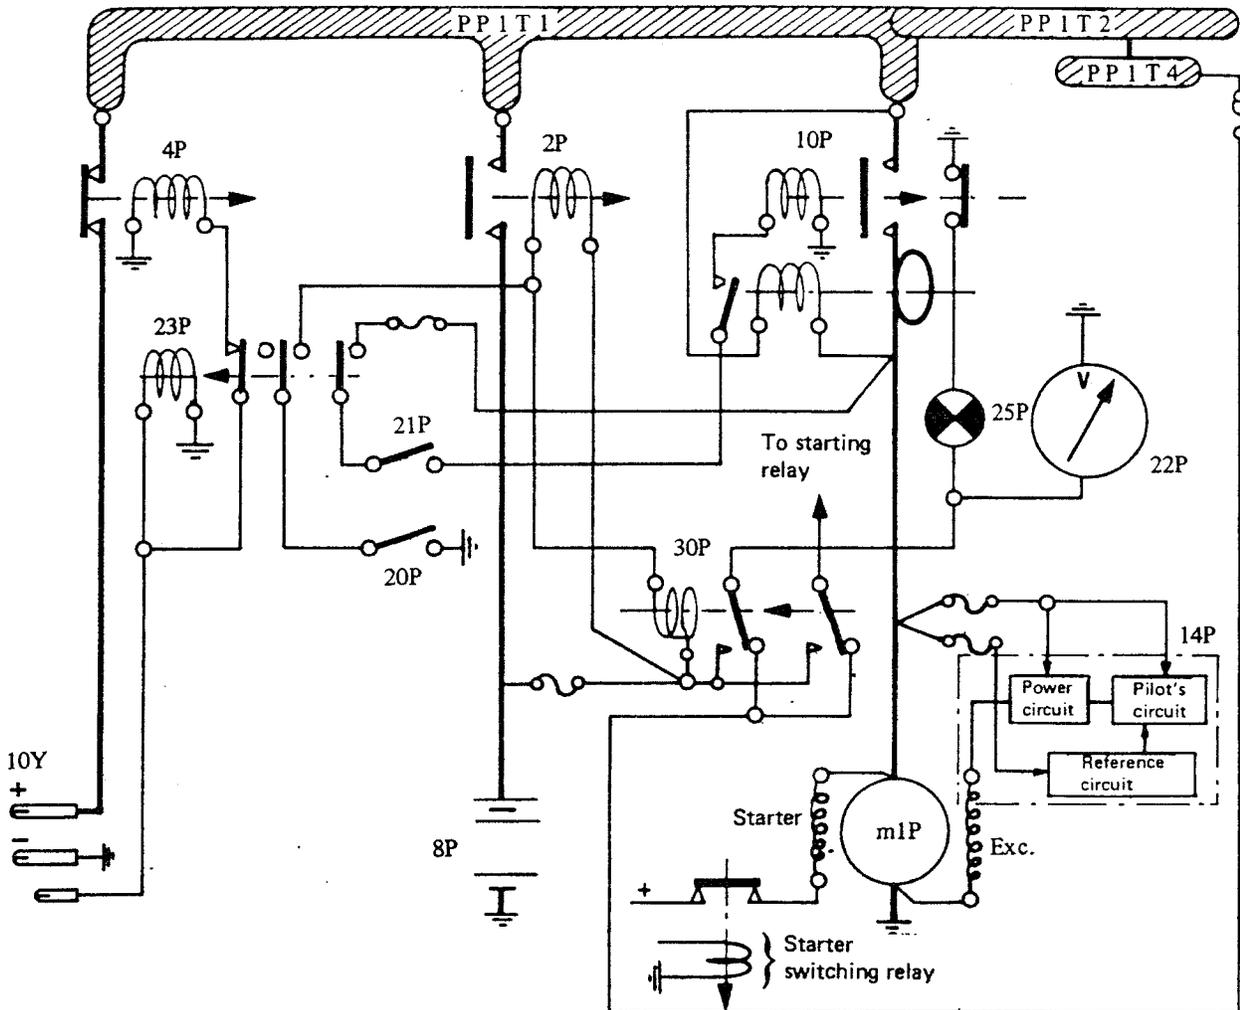

Figure 6
(1) EXTERNAL POWER RECEPTACLE CIRCUIT (Figure 6)